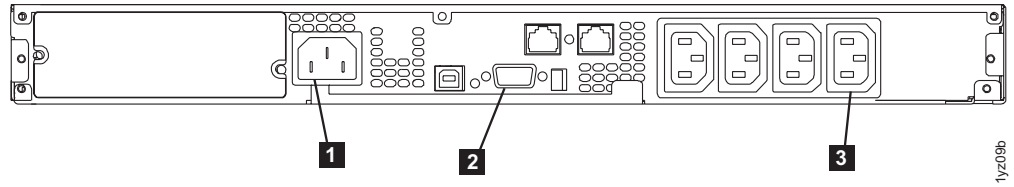

Figure 200. 2145 UPS-1U (rear view)
2. At the back of the 2145 UPS-1U, remove the power cable retainer before disconnecting the SAN Volume Controller power cable from load segment receptacle 2 (**3** in Figure 200 on page 481).
3. Disconnect the signal cable from the communication port (**2** in Figure 200 on page 481).
4. Disconnect the main power cable from the main power source (**1** in Figure 200).